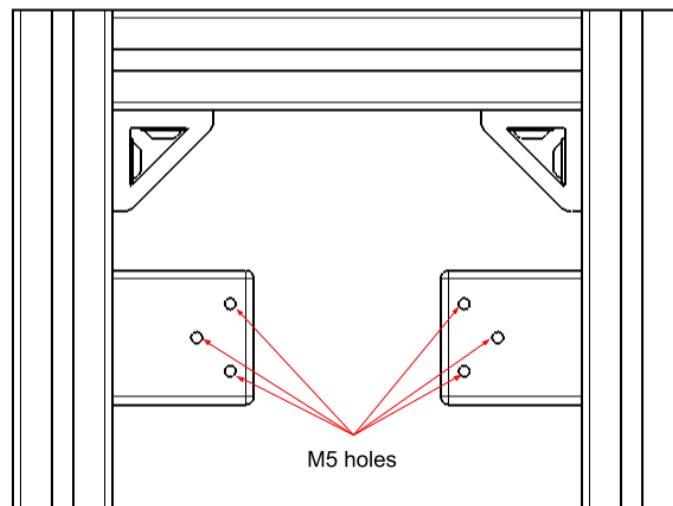

Fig. 4.30: Align the load measurement unit with the block with the highlighted holes.
- ❑ Place the load measurement unit (#EXBE or #USMX) onto the rectangular block profile, aligning these upper and lower holes, as shown in Fig. 4.30.